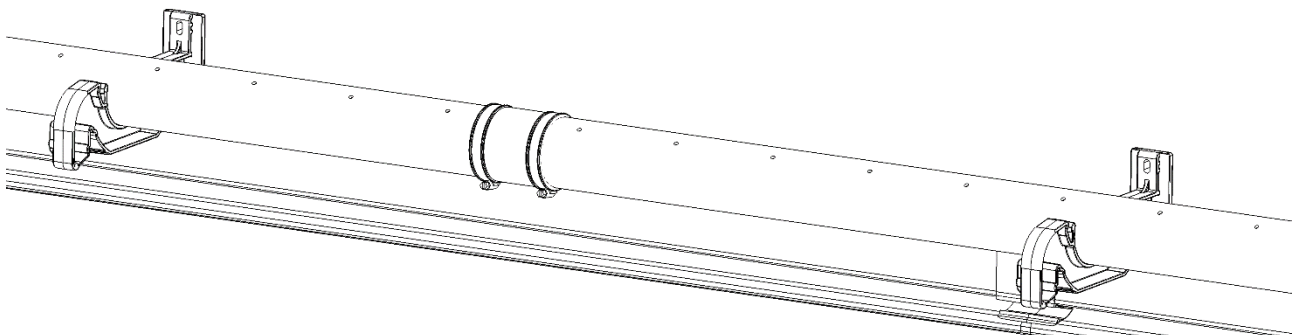

Figure 25
Secure the all Pipe Connectors [ref. 16] using the (2 pcs) Metal Clamps [ref. 17]. See Figure 25. Mind the position of the fixing screw (at the bottom of the pipe to allow fixing the cover).